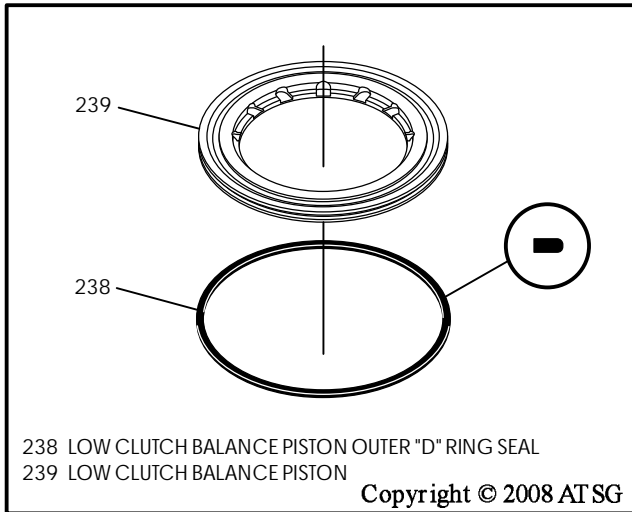

Figure 126
4. Install new "D" ring seal on the low clutch balance piston, as shown in Figure 126, and lube with small amount of Trans-Jel®.